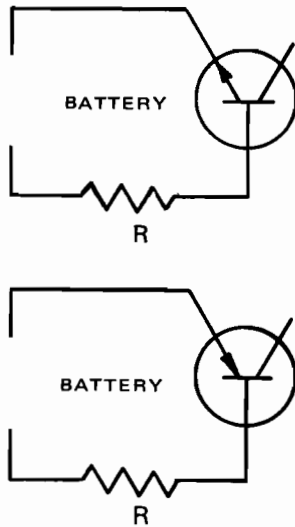

Fig. 13-3-8
12. Complete diagrams in Fig. 13-3-8 by sketching in battery symbol that would forward bias E-B junction of two transistor circuits.